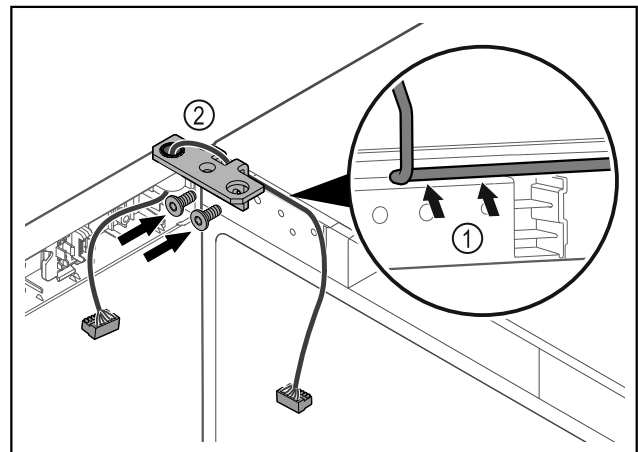

Fig. 57
- ▶ Feed the cable through the recess in the hinge and lay it carefully Fig. 57 (1).
- ▶ Screw on the hinge Fig. 57 (2).